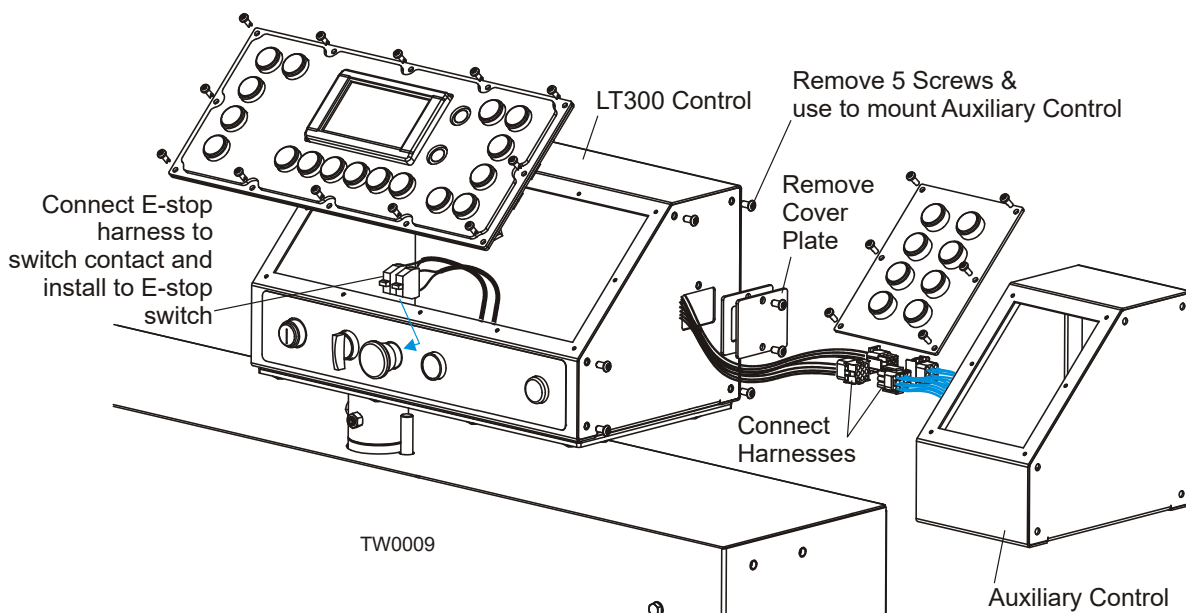

FIG. 2-38
**See Figure 2-38.** Mount the provided auxiliary control box to the side of the LT300 control box. Remove the five screws from the side of the LT300 control. Remove the access hole cover plate and gasket from the side of the box.